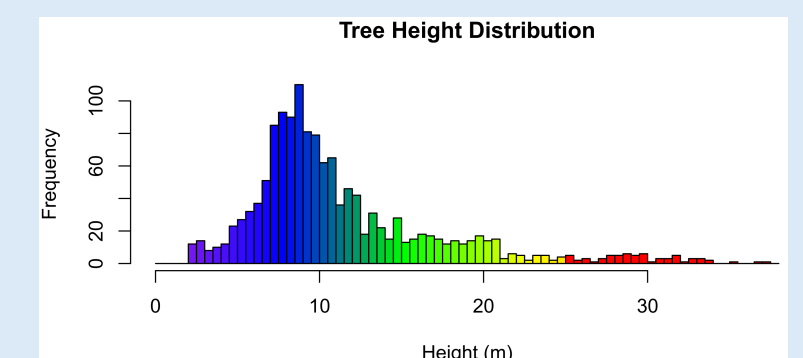

Fig. 8: Tree Height Histogram
- Tree height extracted for all identified trees (Fig. 8)